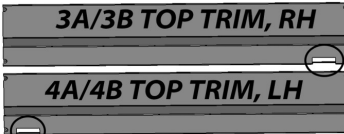

Fig. 11
- c. Choose the top trim according to which side the door hinge is on (Fig. 11). You do not need the other Top Trim for the installation.